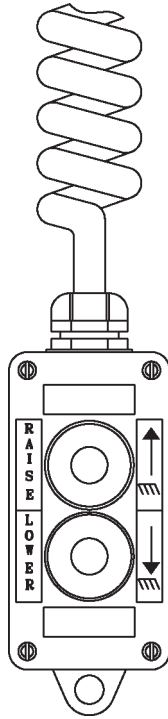

FIG. 9
9. To verify Hand Held Control Box (**FIG. 9**) operates correctly, push **LOWER** button on Control Box (**FIG. 9**) to **LOWER** Platform to ground level. Push **RAISE** button on Control Box (**FIG. 9**) to **RAISE** Platform all the way to Extension Plate.